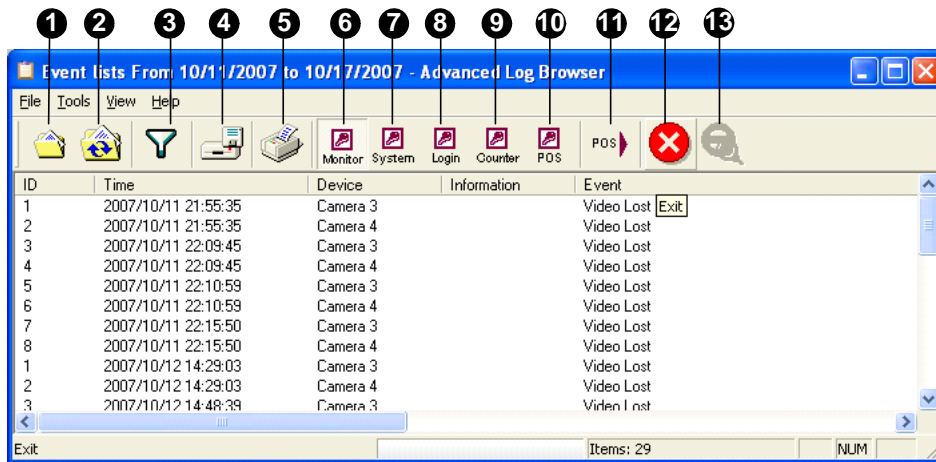

Figure 4-42
1. On the toolbar, click the desired log table button (Monitor, System, Login, Counter or POS), click the **Filter** button (No. 3, Figure 4-42), and select **Default Filter**. This dialog box appears.